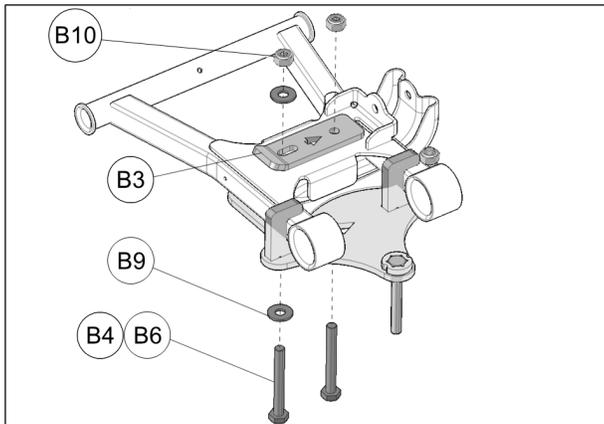

Fig. 10
8. Position bracket cover (B3) over lower suspension arm. Insert appropriate bolts [M10x55mm (B4) or M10x80mm bolts (B6)] through bottom. Set washers (B9) over bolt head and under nut installed in oblong holes present in bracket plate and cover. Use nuts (B10) to secure assembly. See Fig. 10